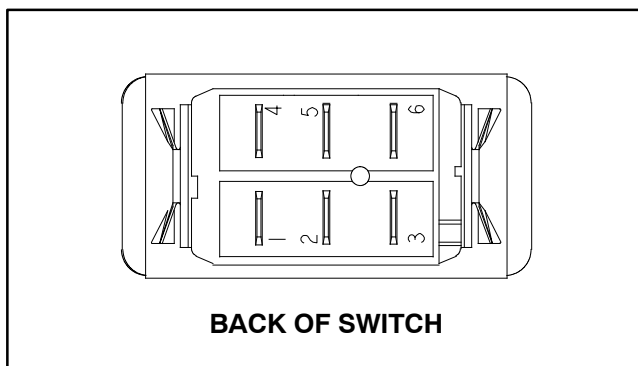

Figure 49
4. The switch terminals are marked as shown in Figure 49. The circuit logic of the wiper/washer switch is shown in the chart below. With the use of a multimeter (ohms setting), the switch functions may be tested to determine whether continuity exists between the various terminals for each position. Verify continuity between switch terminals. Replace wiper/washer switch if testing identifies a faulty switch.